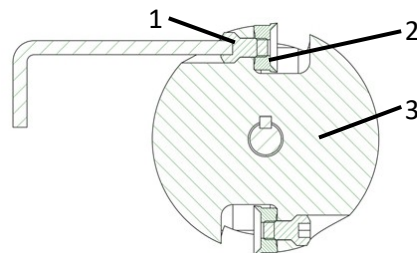

Fig. 20: Replacing knives
- > Loosen the knife screws (1 - Fig. 20) on the milling head (3 - Fig. 20) with a 3mm Allen key.
- > Replace the circular knives (2 - Fig. 20) or turn them by 180°.